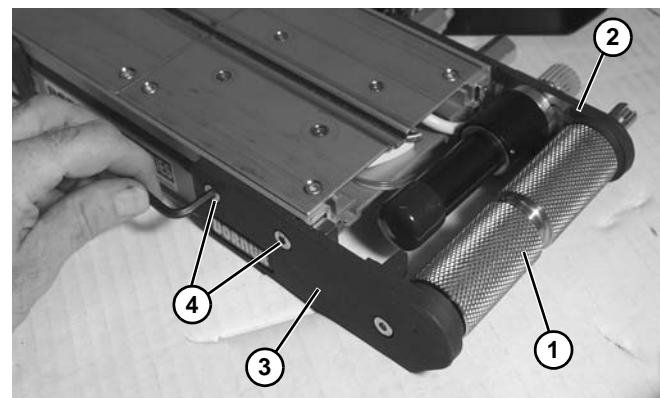

Figure 62
1. Install drive spindle (**Figure 62, item 1**) into head plate (**Figure 62, item 2**). Install head plate (**Figure 62, item 3**) and install screws (**Figure 62, item 4**).